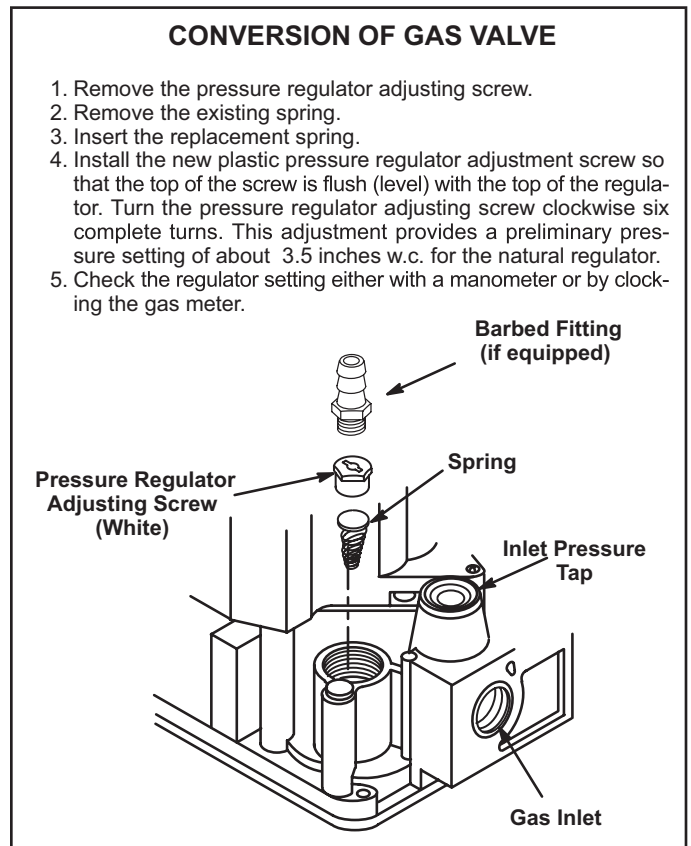

FIGURE 5
- 6 - Replace the gas valve regulator spring. See figure 5.